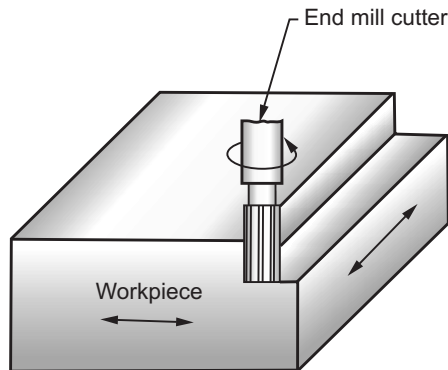

**Fig. 5.24 : Milling a plain slot by using an end mill cutter**
- These slots can be of different shapes such as plain slots, T-slots, dovetail slots, etc. Refer Fig. 5.24.